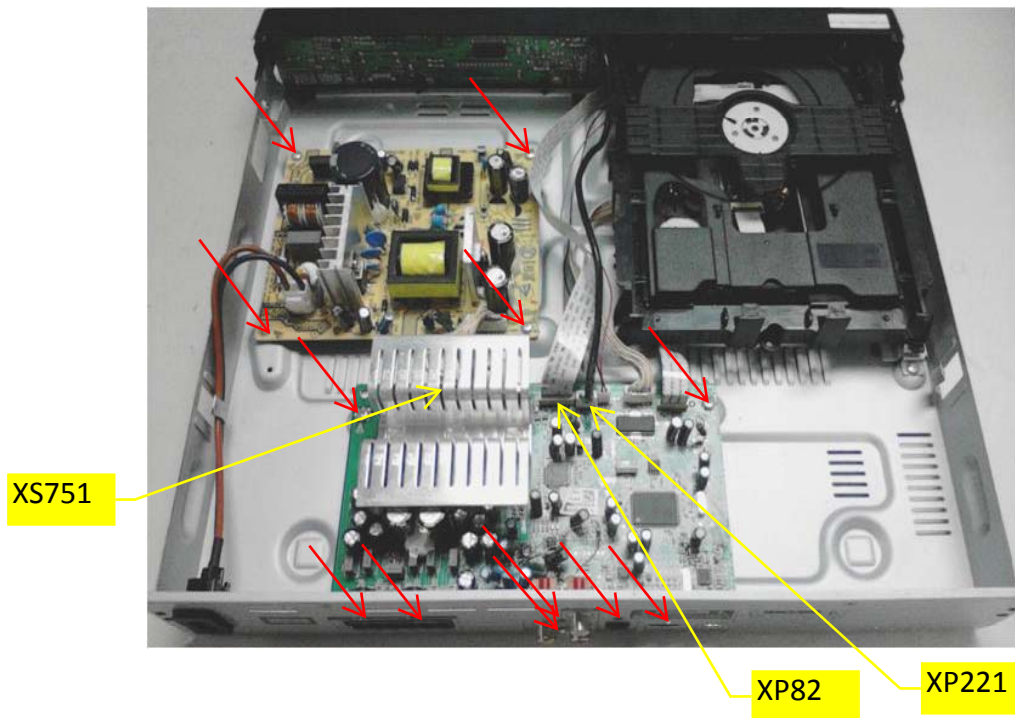

Figure 3
Step3: Dismantle the main board.Disconnect connectors(XP221,XP82,XS751),remove 2 screws on the board and 6 screws on back panel.(Figure 3)
Step4: Dismantle the power board.Remove 4 screws on the board.(Figure 3)